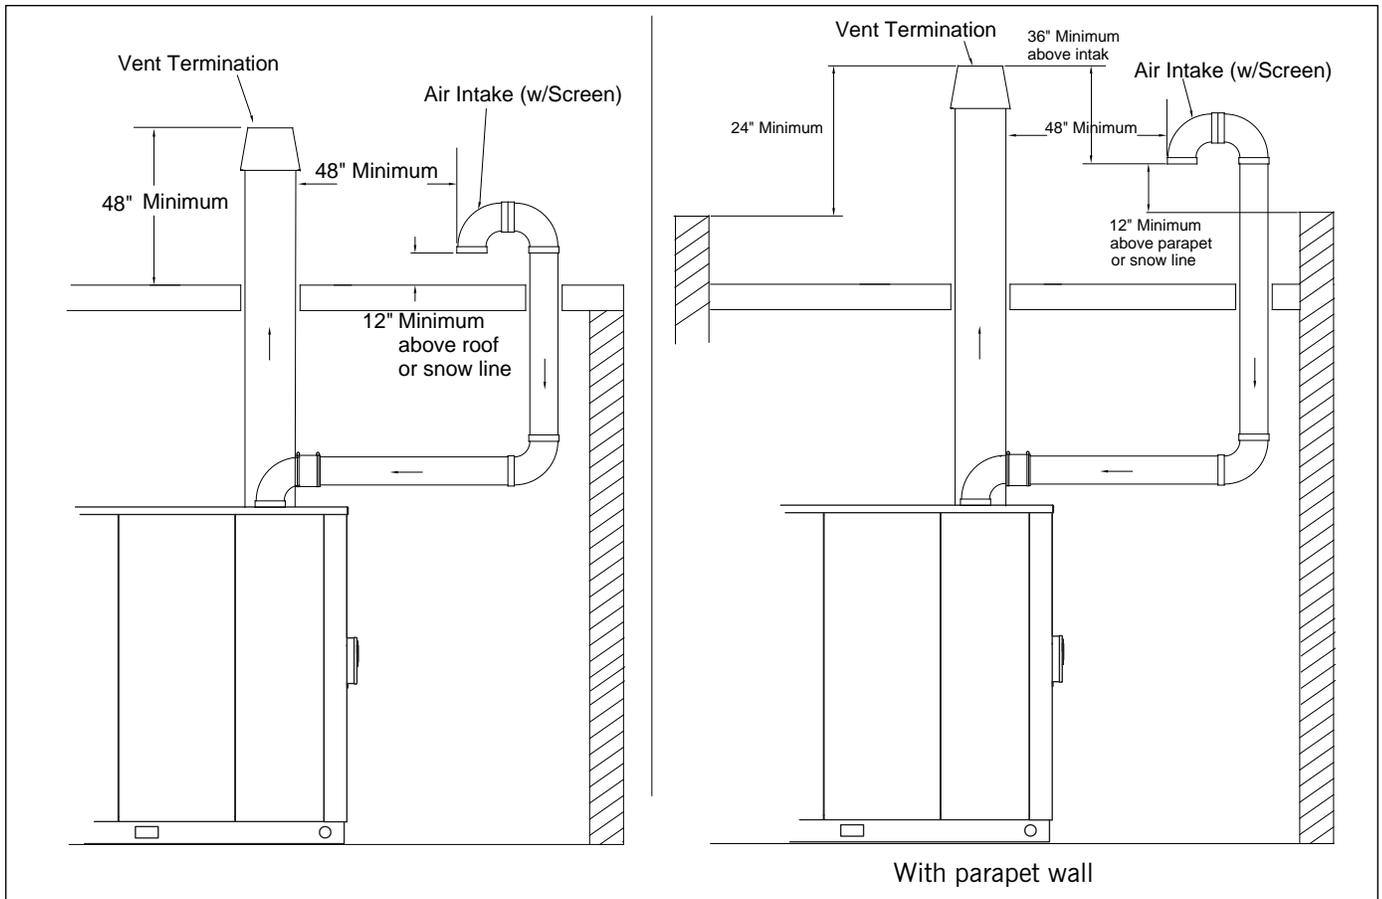
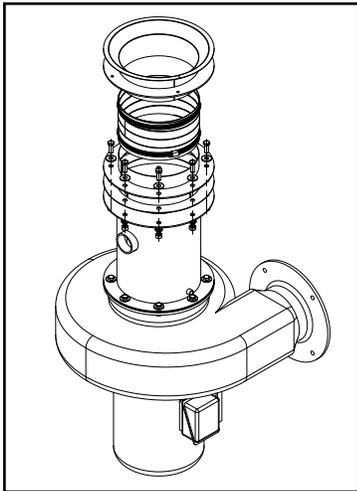

Figure 3-2 Vertical Stack with Direct Vent Combustion Air
Figure 3-9. Optional Direct Vent Combustion Kit
4. Refer to **Figure 3-2** and **Figure 3-4** for suggested piping of direct vent combustion installations. **Figure 3-9** shows the optional direct vent combustion kit providing easy adaptation of the contractor supplied air duct to boiler connection. Refer to Table 3-2 for sizing the direct vent combustion air pipe.